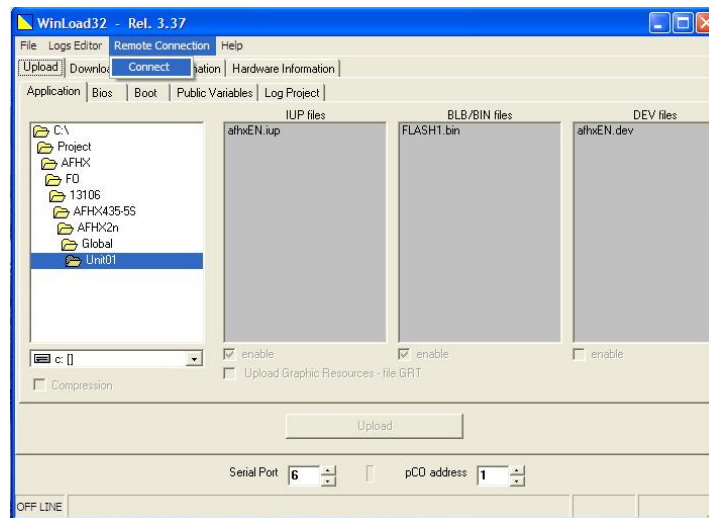

Figure 6.2.2
- iii. Click on "Remote Connection" and "Connect" to start the remote connection. (Figure 6.2.2)